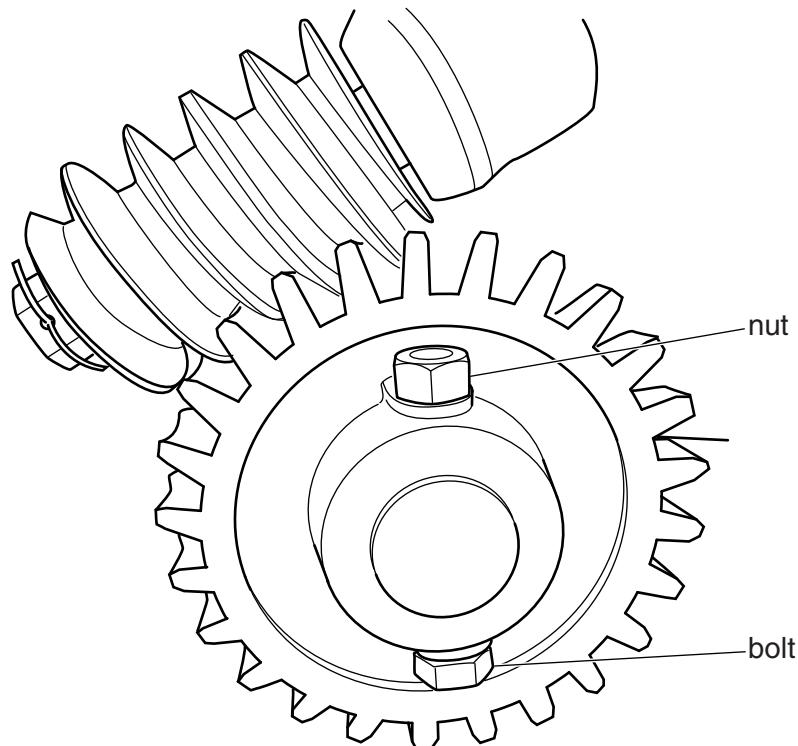

Fig. 1
- 1 Fig. 1 shows a mechanism used for steering a vintage traction engine.
- (a) (i) Name the steering mechanism in Fig. 1
- (ii) State **two** benefits of the steering mechanism shown in Fig. 1.
- (iii) State the purpose of the nut and bolt labelled in Fig. 1.